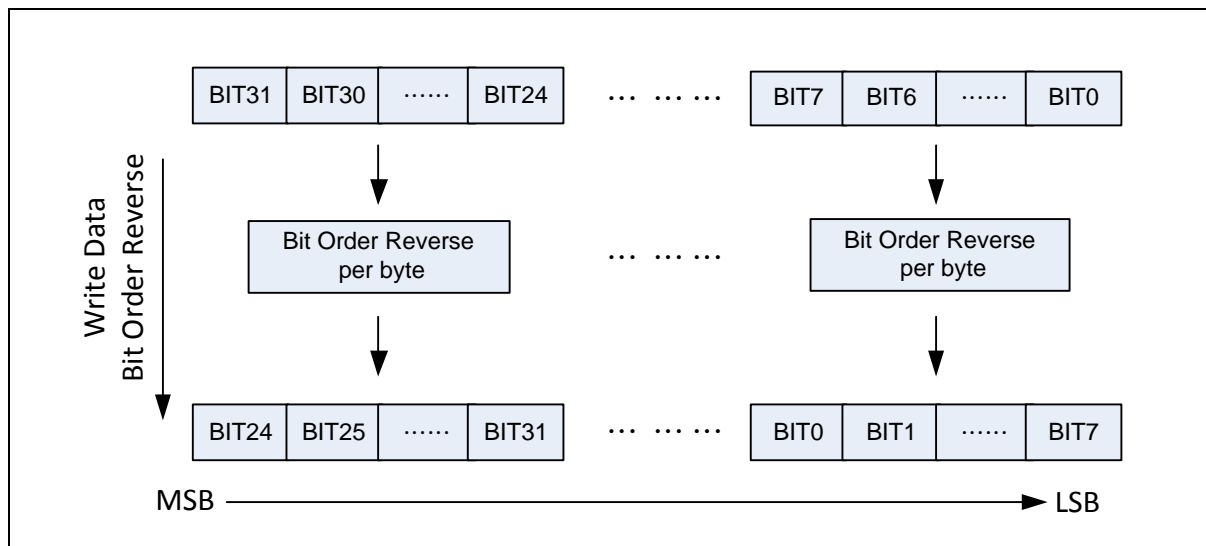

Figure 6.34-3 Write Data Bit Order Reverse Functional Block
- 4) Configure bit order reverse for CRC write data per byte by setting DATREV (CRC_CTL[24] Write Data Bit Order Reverse). The functional block is also shown in Figure 6.34-3.